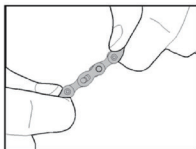

Fig.3
2. To snap Drive Link in locked position, rotate crank until Drive Link is above the chainstay. Hold the rear brake and firmly push the crank forward. (Fig.3)